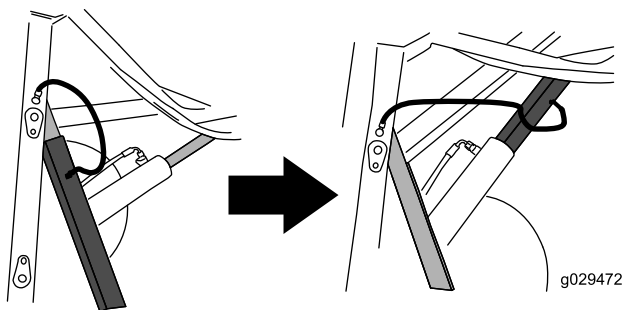

Figure 16
Install the cylinder locks over the hopper cylinders when performing maintenance with the hopper raised (Figure 16).
2. Put the lowering safeguard in place (Figure 16).
2. Install the cylinder lock to secure the hopper against unintended lowering (Figure 16).